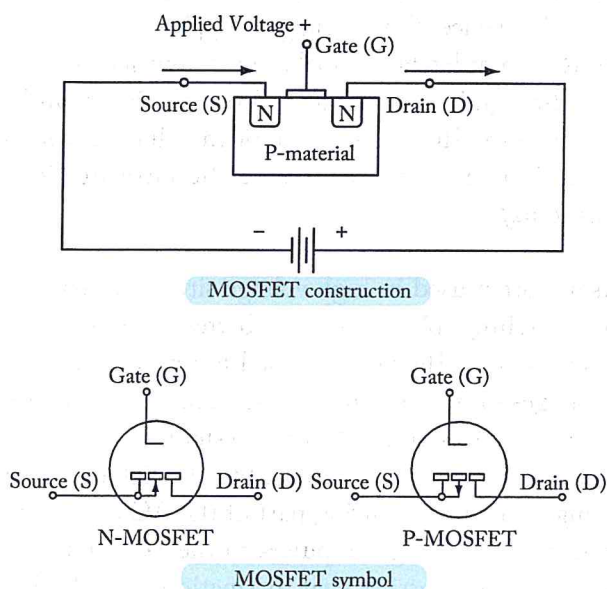

Figure 1-59. General construction and schematic symbol of MOSFET transistor.
Figure 1-59 illustrates the general construction and the schematic symbol of the MOSFET transistor. The biasing arrangement for the MOSFET is essentially the same as that for the JFET. The term "enhancement" comes from the idea that when there is no bias voltage applied to the gate (G), then there is no channel for current conduction between the source (S) and the drain (D). By applying a greater voltage on the gate (G), the P-channel will begin to materialize and grow in size. Once this occurs, the source (S) to drain (D) current will increase. The schematic symbol reflects this characteristic by using a broken line to indicate that the channel does not exist without a gate bias.